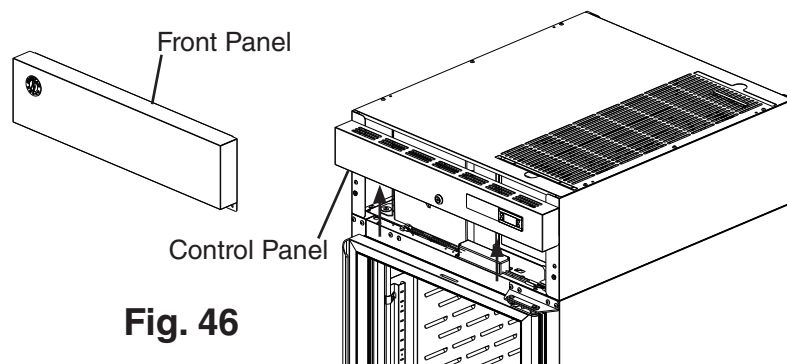

Fig. 46
- 2) Remove the front panel, then being careful not to pull the wires on the control module and door switch(es), remove the control panel. Secure the control panel so that it does not interfere with the hinge brackets and will not fall. See Fig. 46.